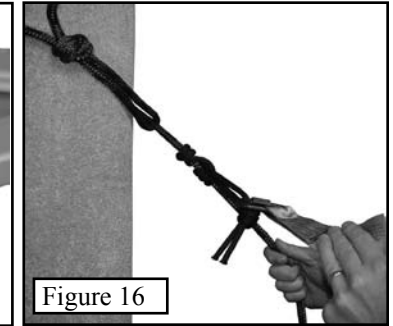

Figure 16
Step 1. Now that your platform and seat section are attached to the tree, you are ready to climb. **WARNING:** It is **MANDATORY** that you use a safety harness as you climb. Be sure to read the safety harness instructions for proper use of your safety harness. Simply attach the safety line to the tree above the seat climber and secure it to the harness for climbing as shown in **Figure 16**.